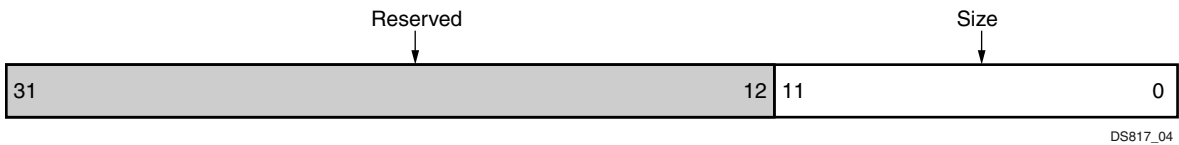

Figure 4: Size Register (SZ)
The Size (SZ) register shown in Figure 4 is a 12-bit write register that determines the number of words to be transferred from the ICAP to the read FIFO. The bit definitions for the register are shown in Table 7. The offset and accessibility of this register from the C\_BASEADDR value is as shown in Table 4.